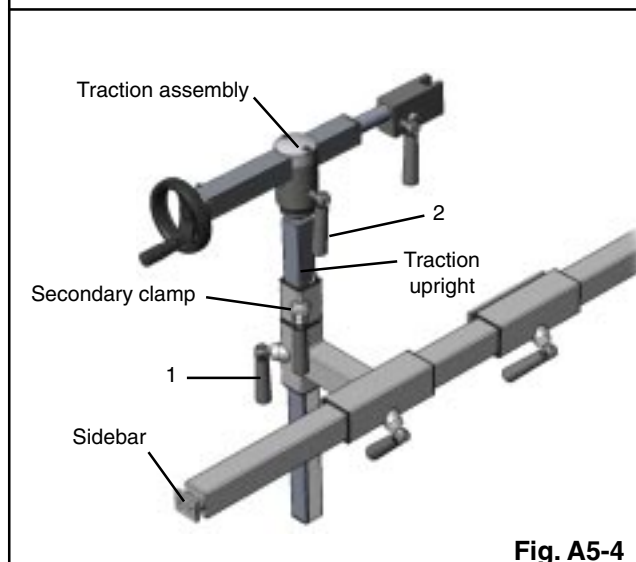

Fig. A5-4
Traction assembly. Insert the traction upright into the carrier's support tube with a secondary clamp positioned above (see Fig. A5-4). Lock in place with the drop handle clamp (1). Position the secondary clamp against the carrier and lock in place with its drop handle clamp (2).